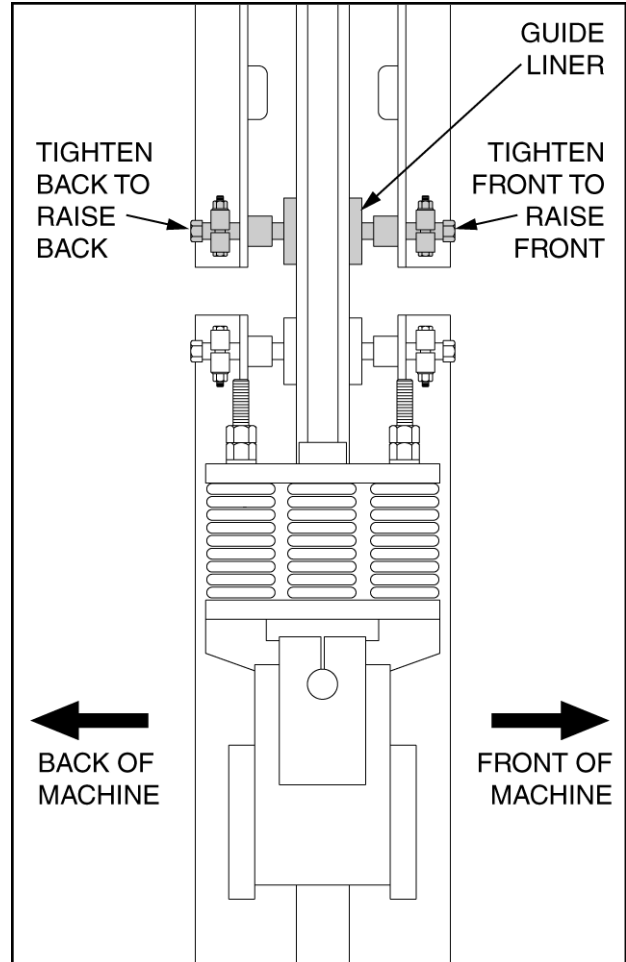

Figure 5.32 STRIPPER HEAD FRAME ADJUSTMENT
- 5.7.5 Make adjustment on the right hand side by backing one lower stripper head guide liner away from the slide shaft and tightening the other against the slide shaft. To raise the front, loosen rear and tighten front. To raise the back, loosen the front and tighten the rear (see figure 5.32).